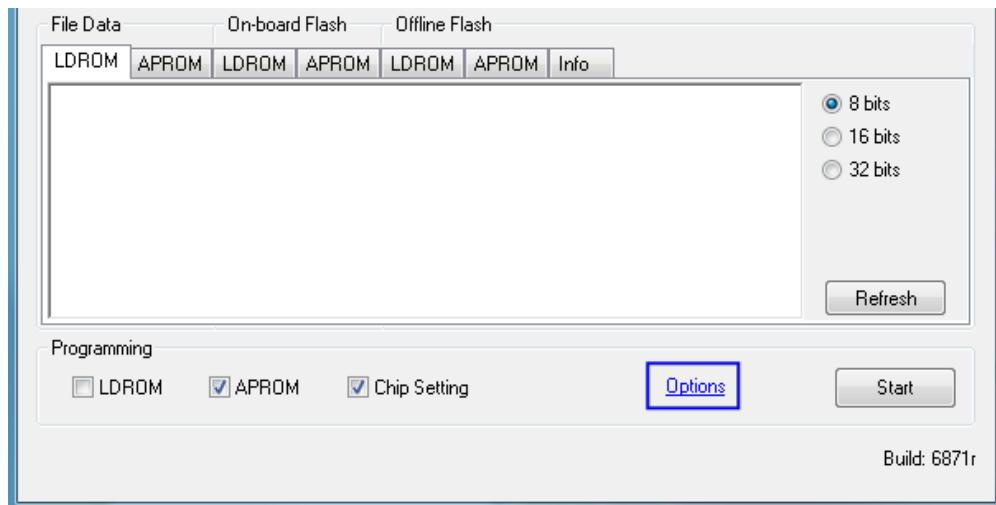

Figure 4-2 Programming Setting
5. Click “**Options**” button to enter the programming setting page, as shown in Figure 4-2.